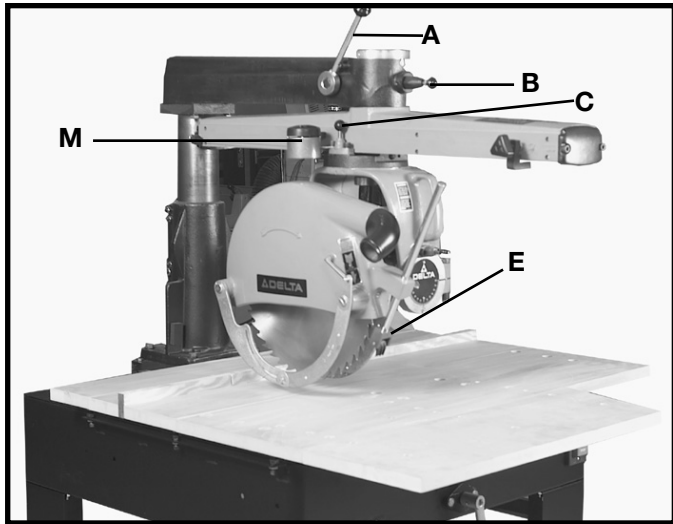

Fig. 2
**A - TRACK-ARM CLAMP HANDLE Fig. 2.** Controls swing of track-arm for all miter cutting operations. Locks track-arm at any angle for the full 180° rotation. To rotate track-arm, loosen clamp handle and rotate arm. The arm will stop at the 0° and 45° positions right and left. To move the arm past these points the track-arm index knob (B) must be pulled out.
**B - TRACK-ARM INDEX KNOB Fig. 2.** Locates 0° and 45° miter position, right and left, of the track-arm
**C - YOKE INDEX KNOB Fig. 2.** Locates each 90° position of the yoke for ripping or cross-cutting operations. When rotating the yoke, the yoke clamp handle (D) must first be loose.
**E - ANTI-KICKBACK DEVICE Fig. 2.** When ripping, the yoke is positioned and clamped so that the blade is parallel to the fence. The rear of the blade guard is lowered until it almost touches the workpiece. The anti-kickback rod is then lowered so that the fingers catch and hold the workpiece. Never rip from the anti-kickback end of the blade guard.
**M - CUTTINGHEAD RETURN ATTACHMENT Fig. 2.** Automatically returns the cuttinghead to the rear of the track-arm after completion of the cut.